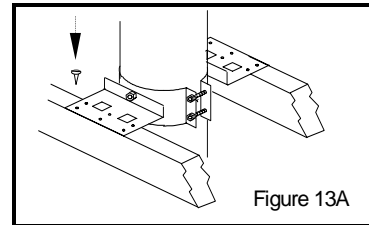

Figure 13A
- 1 Install the insulated offset elbow on the vertical chimney length. Turn it in the required direction and fasten it to the chimney with the (4)-1/2" metal screws provided.
- 3 Use another elbow to turn the chimney vertically. Again secure the elbow to the chimney length using the (4)-1/2" metal screws.
- 4 Install the remaining chimney as described in the instructions for the roof support (fig. 13A, page 8).
- 2 Slip the support down over the stainless steel chimney until its brackets rest on the roof or floor. Tighten the collar around the chimney, then secure it by screwing the four ½" metal screws (supplied) through the holes located on each side of the collar bolts and into the chimney (fig.13a).
- 3 Center the chimney and nail or screw the support to the roof or floor using (8) - 2 1/2" nails or (8) N°8 - 1 1/4" wood screws. (Fig. 13a)
- 5 **U.S ONLY** - Install the roof radiation shields in the roof joists. These shields consist of four metal plates. Nail one plate to each side of the joist using (2) 2½" nails.